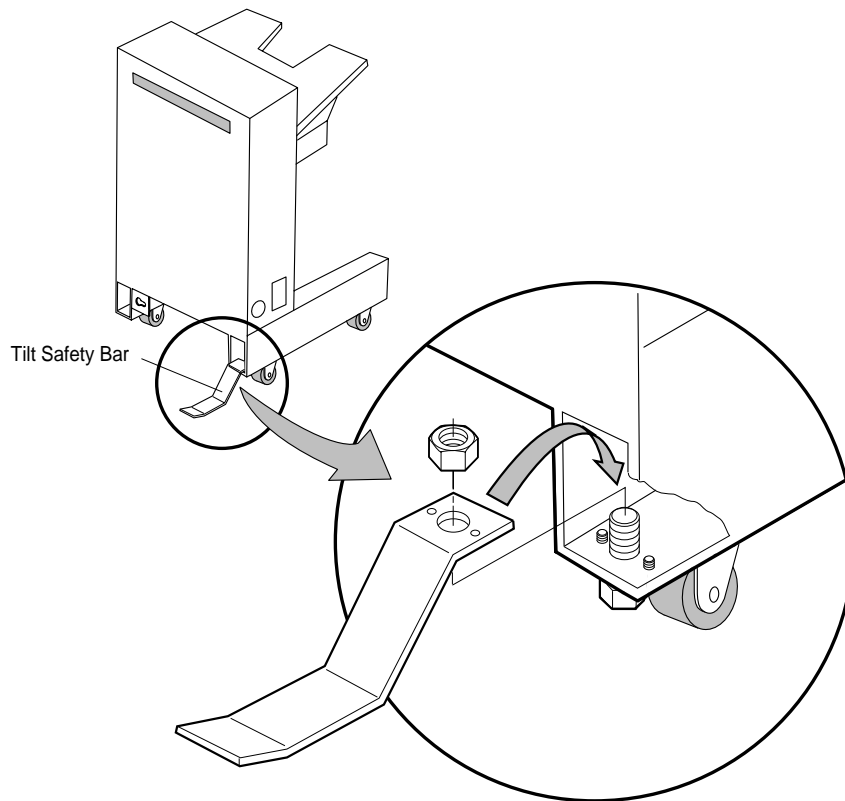

Figure 4-21 Attaching Safety Tilt Bar
7. Turn the bar over and replace it as shown in Figure 4-21.